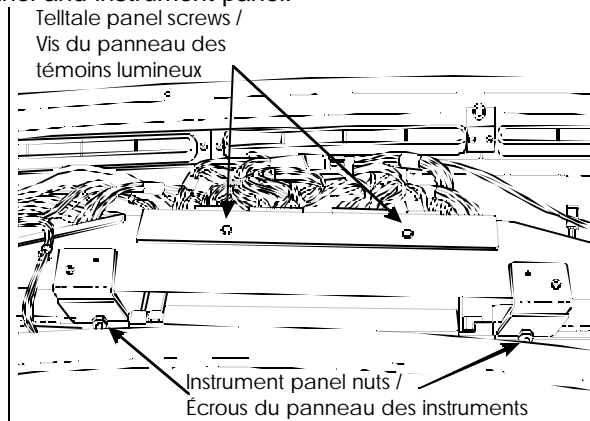

FIGURE 1 : DASHBOARD COMPONENTS
5. Remove the retaining screws of the telltale panel (figure 1).
6. Remove the retaining nuts of the actual instrument panel (figure 1).